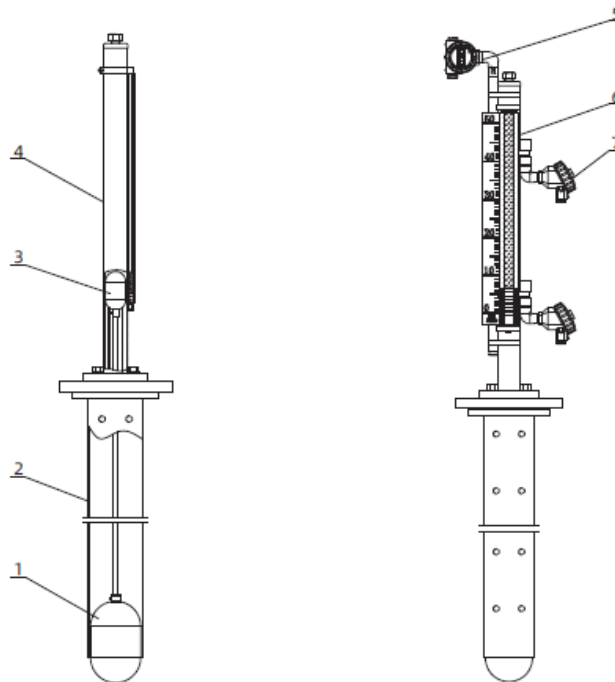

Figure 2 UHC Magnetic Level Gauge Top-mounted Type
2.1.2 Figure 2-UHC magnetic level gauge top-mounted type